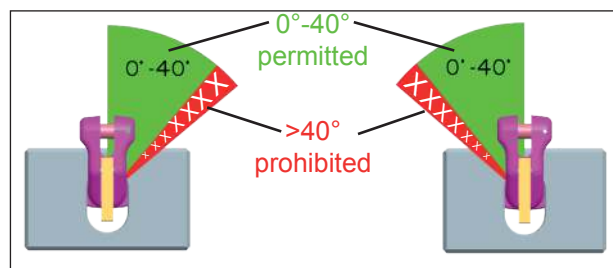

Fig. 4: Range of use VIP container hook VCH-K 16
3. The VCH-K 16 may only be used in the angle range 0°-40° (see fig. 4, green range).
4. The VCH-K 16 must not be used in the angle range greater than 40° (see fig. 4, red range).